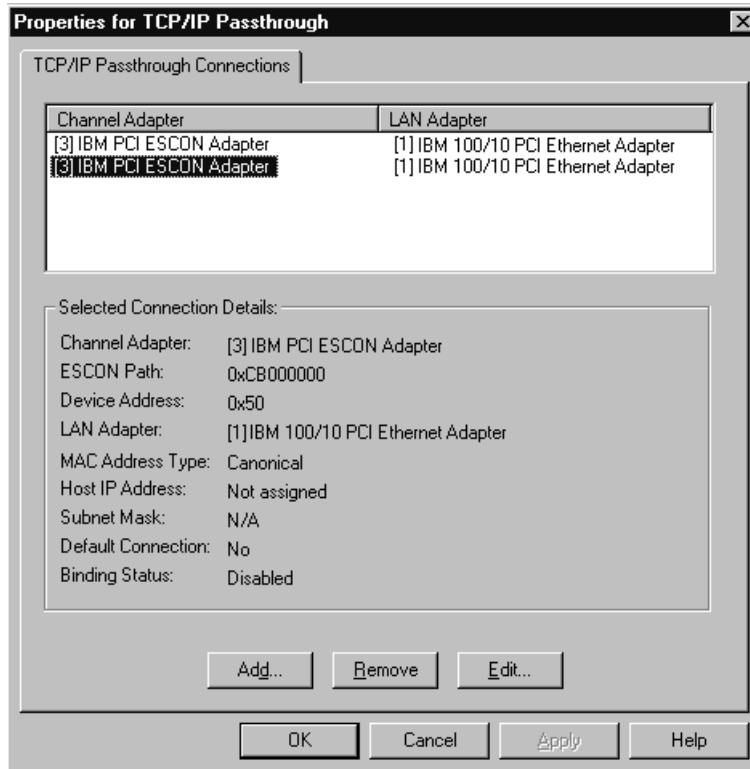

Figure 9-17. Edit a Connection
1. To edit an existing TCP/IP Passthrough connection highlight the connection on the TCP/IP Passthrough Properties Screen (Figure 9-17) and click on **E**dit...